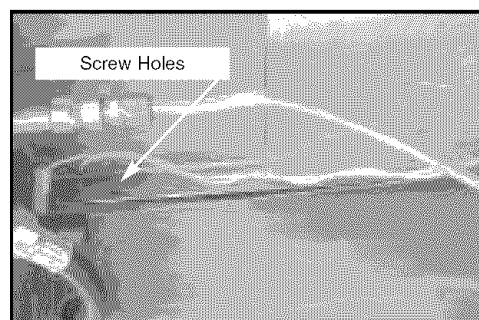

Fig. 9
2. Lock the side burner shelf in place by inserting (2) hex head screws in the side burner. (See Fig. 9)